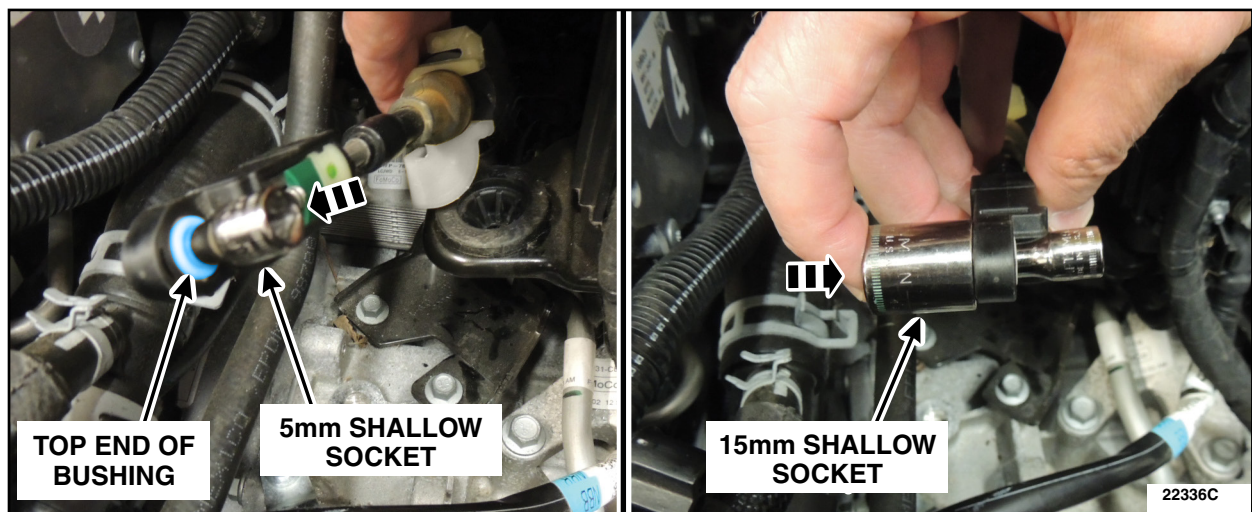

**FIGURE 2**
**NOTE:** Selector Lever Cable Bushing Replacement/Orientation. See Figure 2.